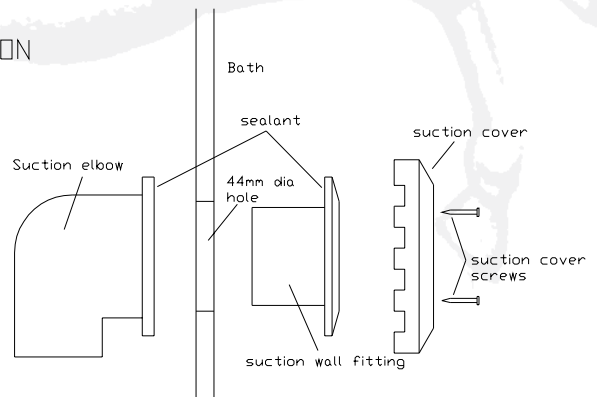

FIG 5
- a) Place a bead of sealant around the shoulder of the suction wall fitting and the flange of the suction elbow. Using the key from the clearwater fixing tool, assemble the suction fitting. *See Fig. 5.*